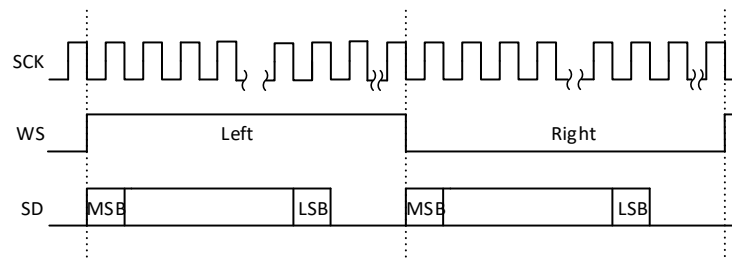

Fig 22-8 Left-justified standard
- Serial data is left justified, as Fig 22-8 shows.